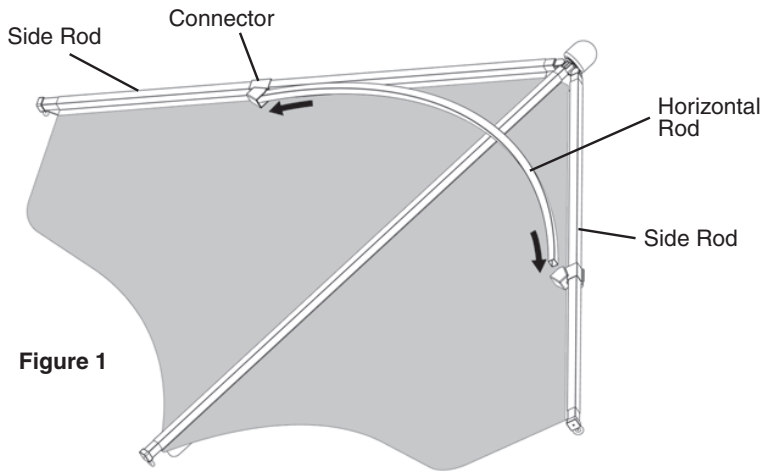

Figure 1
2. Slightly bend Horizontal Rod & insert rod ends into Connectors located on the Outside Rods as shown in Figure 1.